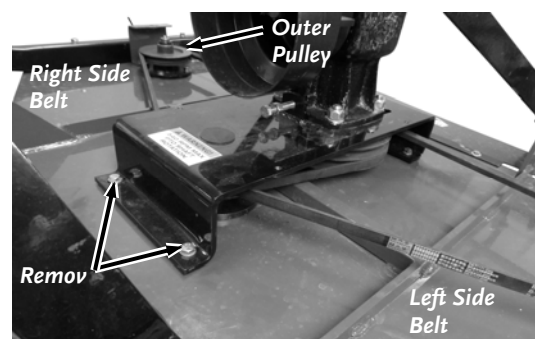

Figure 42
7. Make sure you protect your hands with Gloves as you Roll the Belts off the outer Pulleys (**Figure 42**).